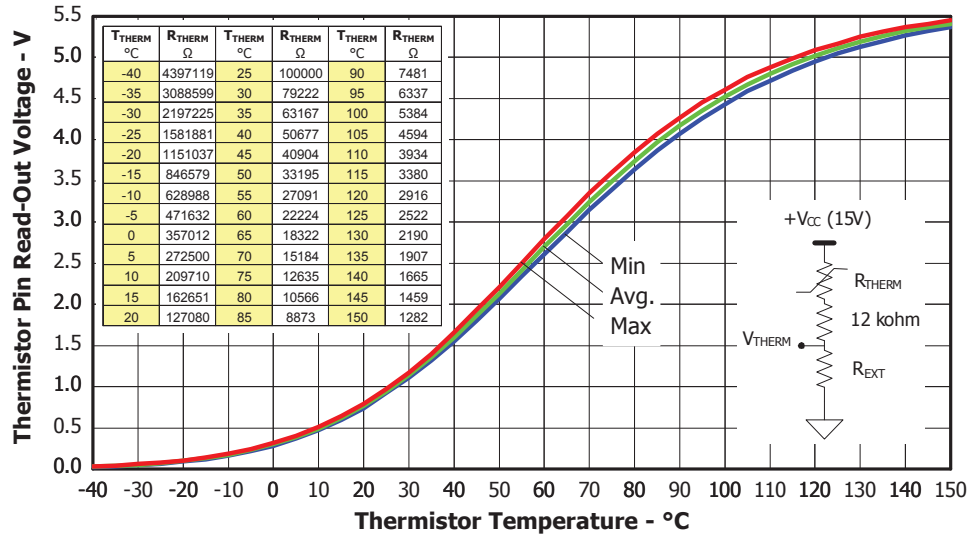

Figure 9. Thermistor Readout vs. Temperature (7.5kohm pull-up resistor, 5V) and Nominal Thermistor Resistance values vs. Temperature Table.
3. Value of the boot-strap capacitors depends upon the switching frequency. Their selection should be made based on IR design tip DN 98-2a, application note AN-1044 or Figure 9. Bootstrap capacitor value must be selected to limit the power dissipation of the internal resistor in series with the V_{CC}. (see maximum ratings Table on page 3).